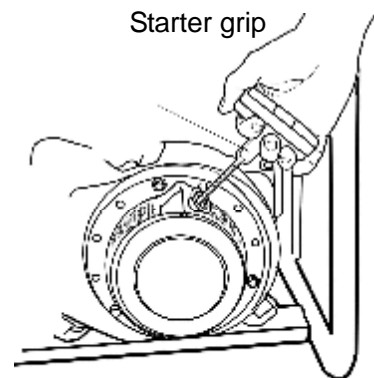

Figure 4
5. Gently pull up the starter grip and pull it out briskly when a resistance is felt (see Figure 4).